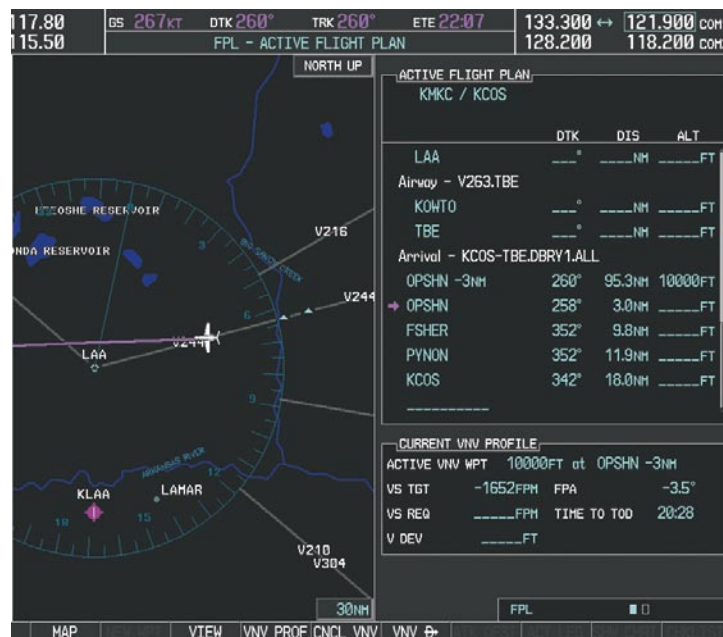

Figure 5-123 Direct-to Active
- h) Press the **ENT** Key twice to activate the direct-to. Note, in Figure 5-123, the magenta arrow indicating the direct-to OPSHN after the offset waypoint for OPSHN. The preceding offset waypoint indicates the offset distance and altitude that were previously entered. The remaining waypoints in the loaded arrival procedure have no database specified altitudes, therefore, dashes are displayed. Keep the CDI centered and maintain a track along the magenta line to OPSHN.